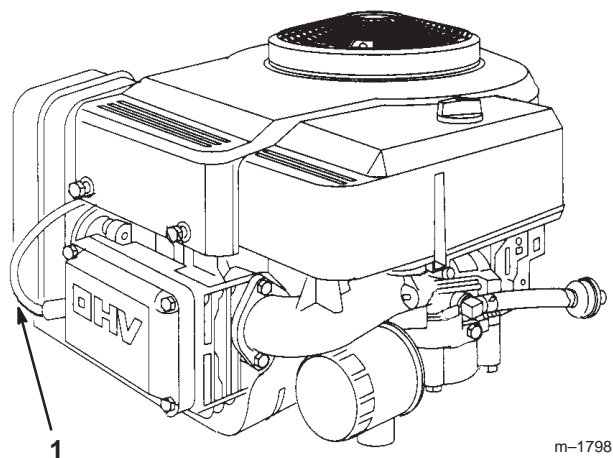

Figure 27
3. Pull the wire off of the spark plug (Fig. 27). Clean around the spark plug to prevent dirt from falling into the engine and potentially causing damage.
3. Push the wire onto the spark plug (Fig. 27).